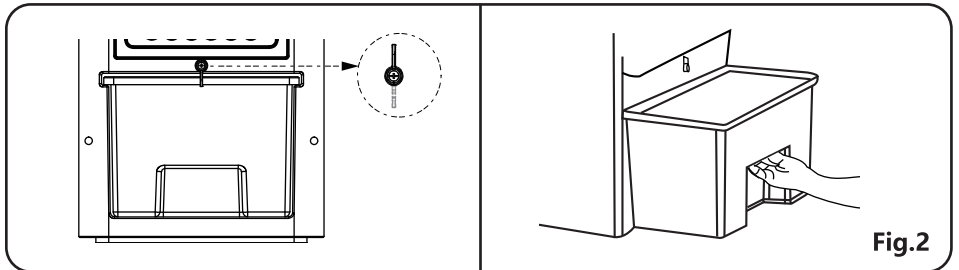
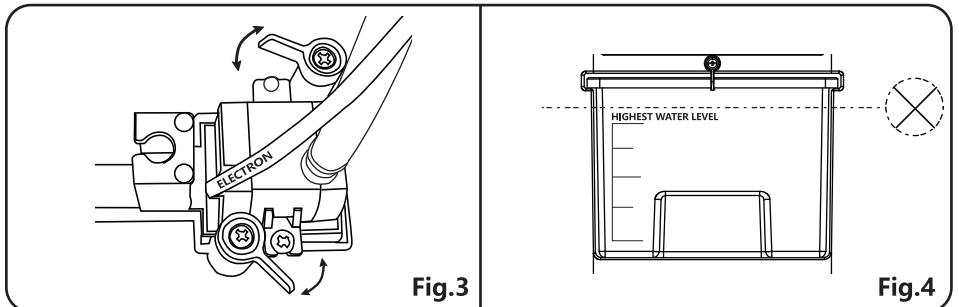
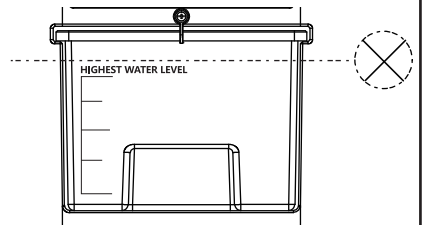

Fig.2
Fig.3
Fig.4
a. Before operating the unit in cool mode, turn the small knob, pull out the water tank and ensure the water tank escape valve is properly affixed. Then, fill the water tank with clean water being sure not to exceed the maximum level indicated.(Fig. 2/ Fig. 3/ Fig. 4)